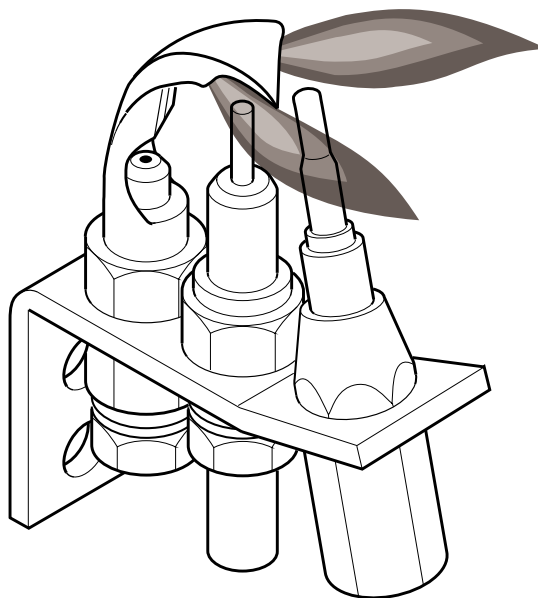

Figure 13 - Viewing Pilot
8. With control knob depressed, push down and release ignitor button. This will light pilot. The pilot is attached to the front of burner. You can see pilot with front access panel of heater removed (see Figure 13). If needed, keep pressing ignitor button until pilot lights.